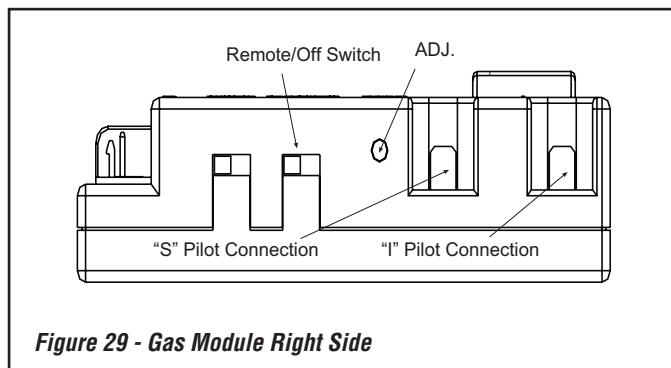

Figure 29 - Gas Module Right Side
1. There is a switch located on the right side of the module that reads REMOTE/OFF (*Figure 29*).